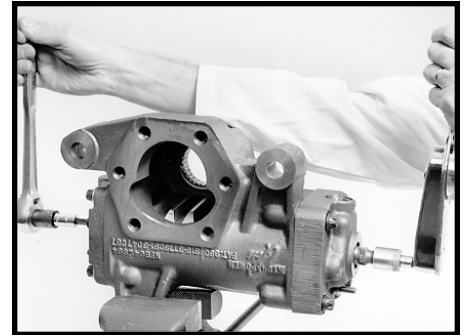

Figure 148
40. With the rack piston (31) in its center position, torque the worm shaft/input shaft adjusting screw (39) using a 5/16 inch Allen wrench socket into solid height (15 to 20 ft. lbs. [20.3 to 27.1 N m]). Then loosen the adjusting screw 1/4 to 1/2 turn and note torque required to rotate worm shaft/input shaft (17) through 90°; each side of center, using an 11/16 inch or 3/4 inch 12 point socket and an appropriate torque wrench. SEE FIGURE 148. Loosen adjusting screw if noted input shaft torque exceeds 15 in. lbs. (1.7 N m). Return rack piston to center position.